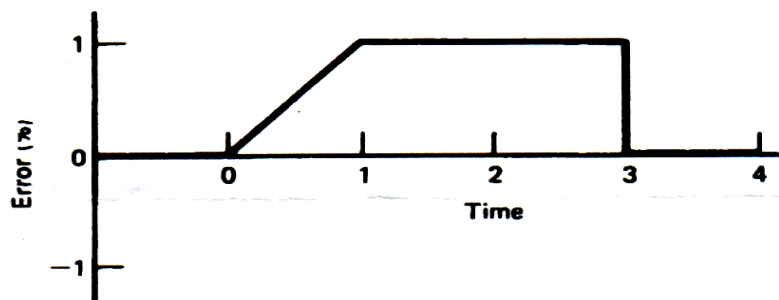

Figure 4
- Q9) a) Figure 4 shows an error time graph. Sketch the PID controller (parallel form) output w.r.t time. Assume $K_p = 10$, $K_i = 2$, $K_d = 0.5$ and $P_o = 0$ i.e the controller output is zero when the error is zero. [10]